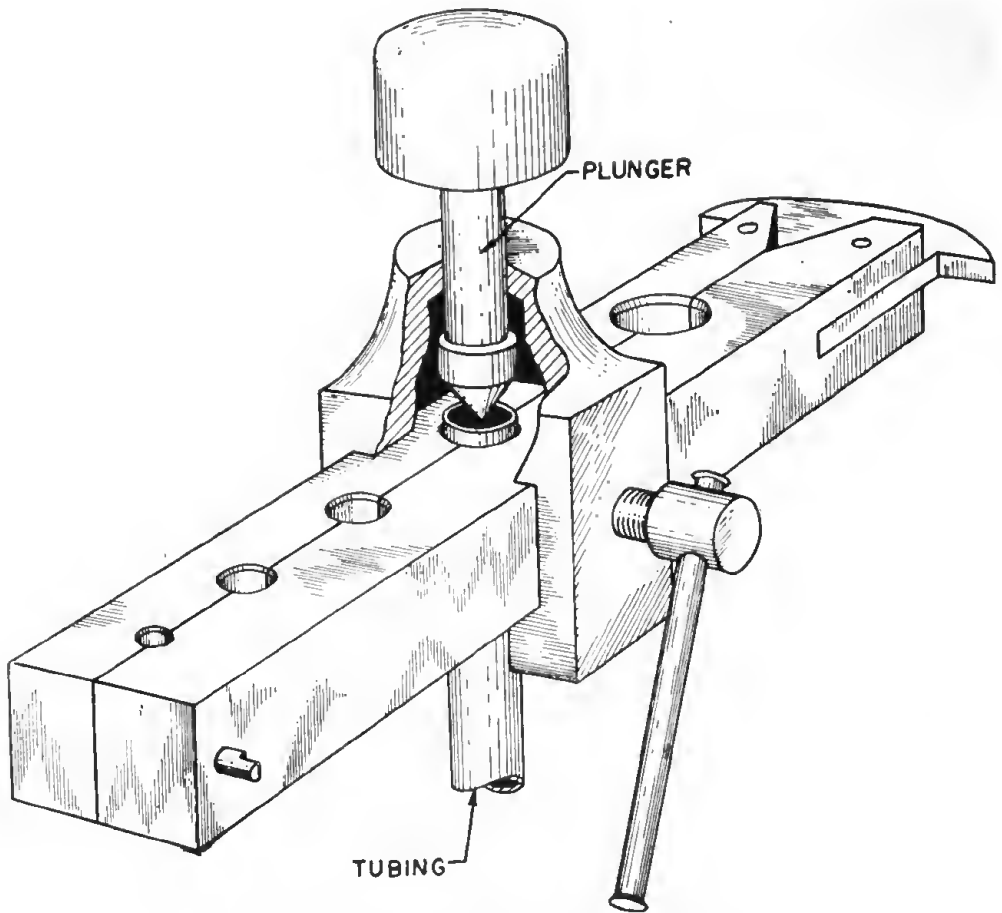
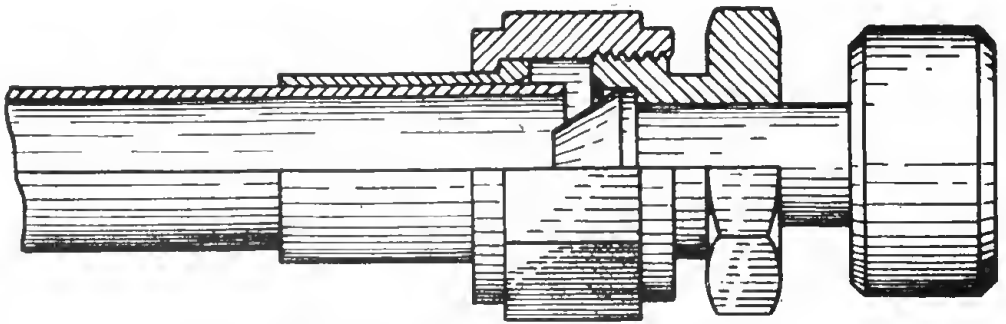

Figure 163. Combination flaring tool in use.
Figure 164. Position of tubing in individual flaring tool.
(2) To flare a tube with the combination flaring tool, the tubing is placed in the proper recess in the tool so that it extends $\frac{1}{32}$ to $\frac{1}{16}$ inch (depending on the diameter of the tubing) above the surface of the tool. The tool is then tightened. The plunger (also called the flaring pin) on the top of the tool is then pushed against the tubing and the assembly is checked to make sure everything is in the proper position. (See fig. 163.) A hammer is used to strike the plunger 10 or 12 medium-heavy blows. The plunger is rotated slightly after each hammer blow to insure a uniform flare. The flare sleeve and nut must be placed on the tubing before the flare is made. To make a flared tube connection with an individual flaring tool, the sleeve is placed in the nut, the nut screwed on the tool, and the tubing inserted through the sleeve. (See fig. 164.) The tubing is held and the head of the flaring tool struck with a hammer. The plunger is rotated after each blow to produce a uniform flare.
(3) The proper diameter for a flare depends upon the diameter of the tubing. If available, a go, no-go gauge should be used on each flare to make sure it is of the proper size. If a gauge is not available, the flare may be checked for size with the sleeve and nut. The outside diameter of the flare should be greater than the outside diameter of the sleeve, and less than the inside diameter of the threads of the nut. The diameter of a flare produced with a combination tool depends upon the height